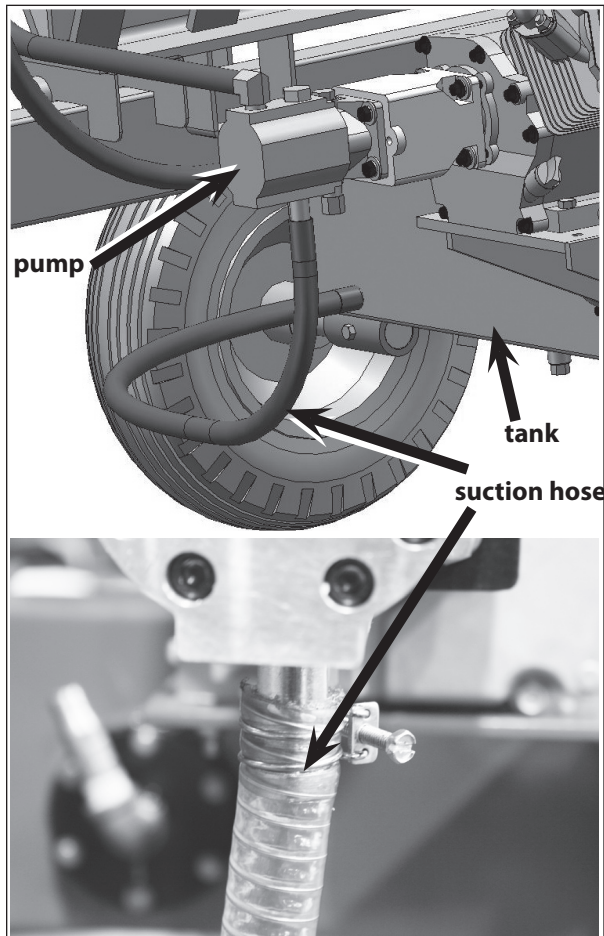

Figure 13
SEE FIGURE 13.
19. Attach the high pressure hose to the high pressure port on the valve and to the outlet port on the pump. **SEE FIGURE 13 and 14.** *Tip: Jiggle the fitting while tightening to ensure proper seating of the fitting.*